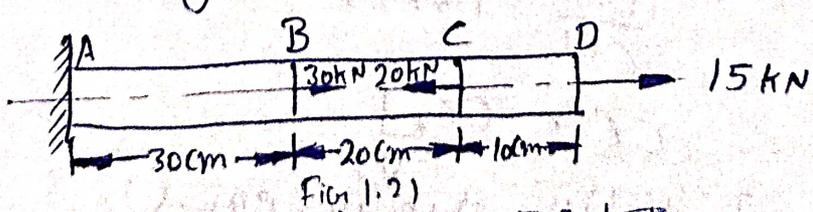

Fig 1.21
5. A steel bar of 30mm diameter is loaded as shown in Fig 1.21. Determine the stress in each portion & the total elongation. $E = 210 \text{ GPa}$